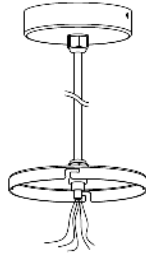

Fig. 7
2. Slip the wires of the pendant mount kit through the mounting plate and tighten the ring nut. (Fig. 7)